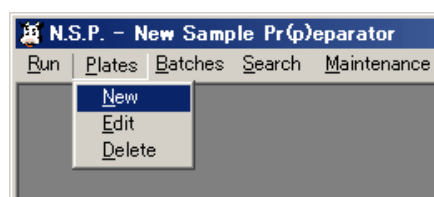

Fig. 5.3-1 : Delete a sample plate
- (1) Select "Delte" from the "Plates" menu (Fig 5.3-1).